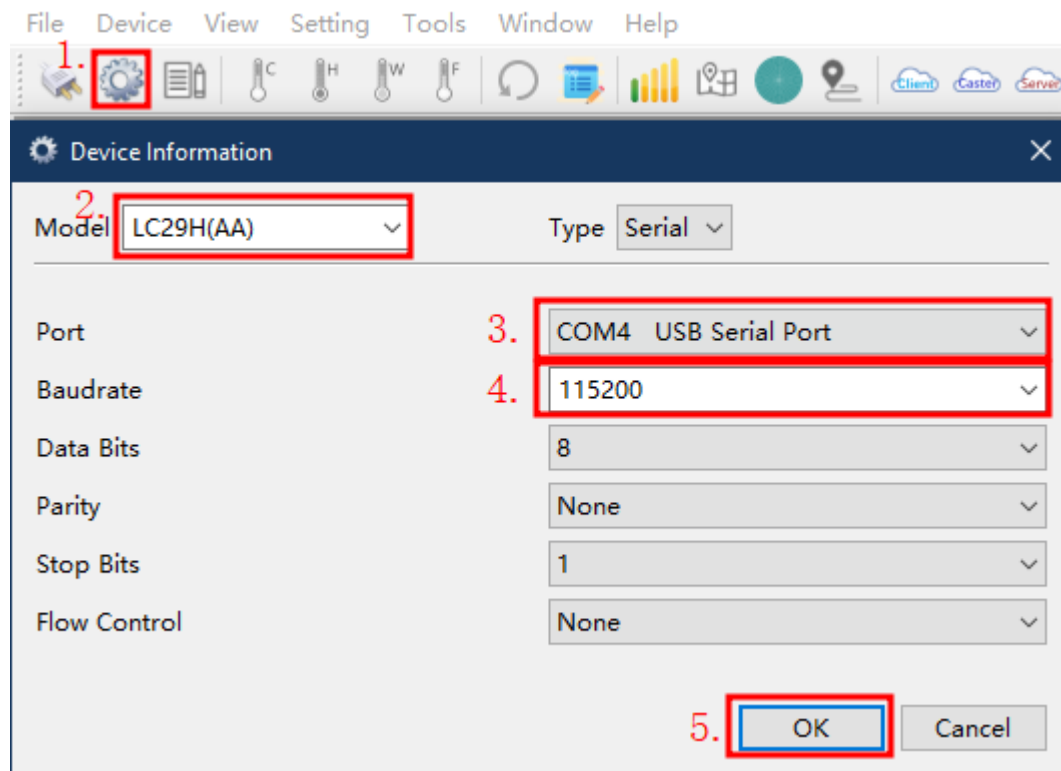

Figure 32: Device Information
Step 1: Open QGNSS tool and click  to access the “**Device Information**” window as shown in Figure 32: Device Information.